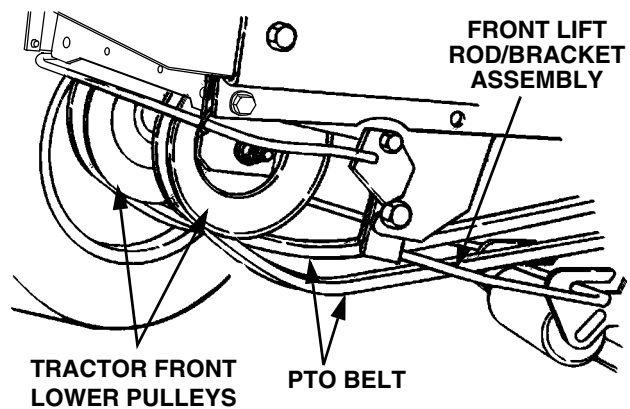

Figure 36
12. From the front of the tractor, loop the PTO belt with the narrow side of the 'V' belt inward; then pass the belt upward in front of the lower front pulleys and inside the tractor frame (Refer to Figure 36).
14. Twist the two sides of the PTO belt 1/4 turn inward to engage the narrow sides of the belt into the grooves of the two tractor front-lower pulleys (See Figure 36).